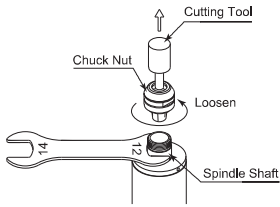

Fig. 4
- ① Remove the cutting tool according to the section 5 "CHANGING THE CUTTING TOOL" procedure above and remove chuck nut assembly, (Fig. 4).